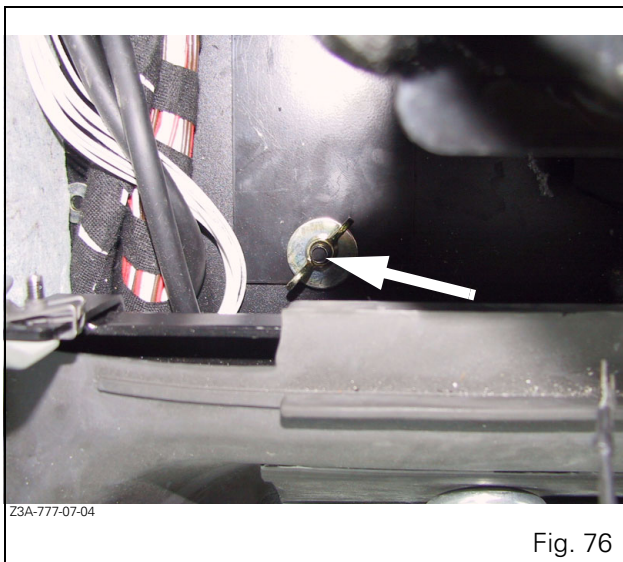
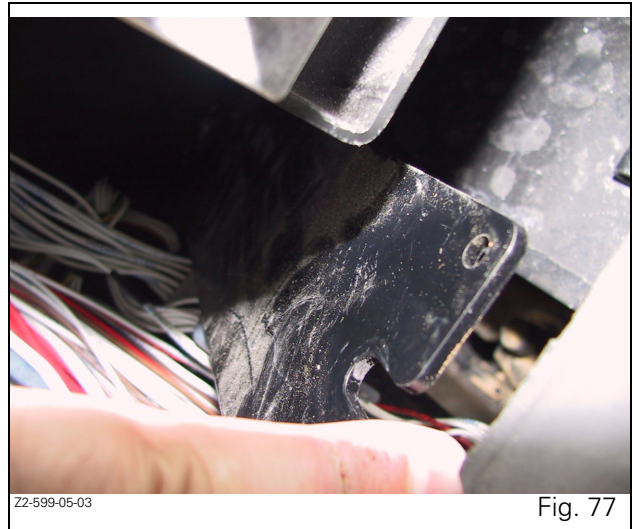

Fig. 76
Fig. 77
2. Remove the protective shield (Fig. 76 and Fig. 77).
3. Remove the protective shield (Fig. 76 and Fig. 77).